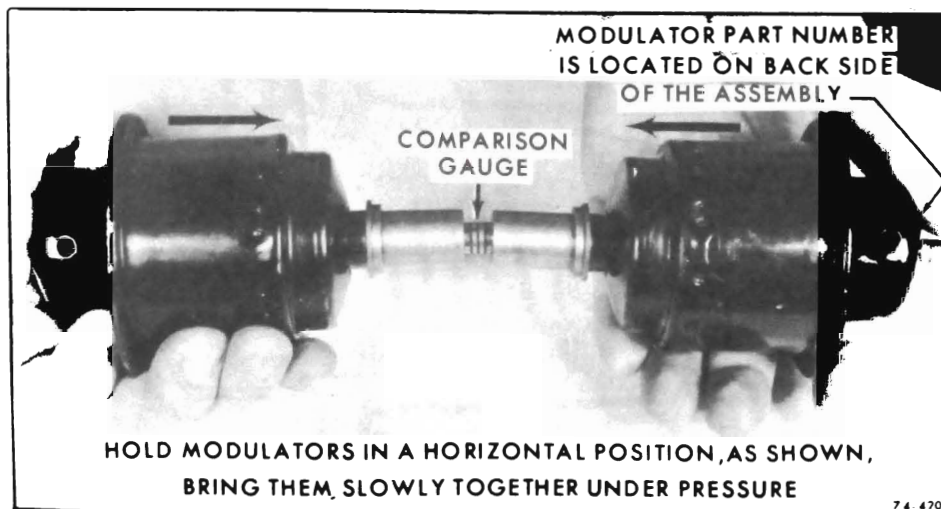

Figure 74-362 - Holding Modulator in Horizontal Position
- b. Holding the modulators in a horizontal position, see Figure 74-362, bring them slowly together under pressure. The modulator bellows in question, if defective, will